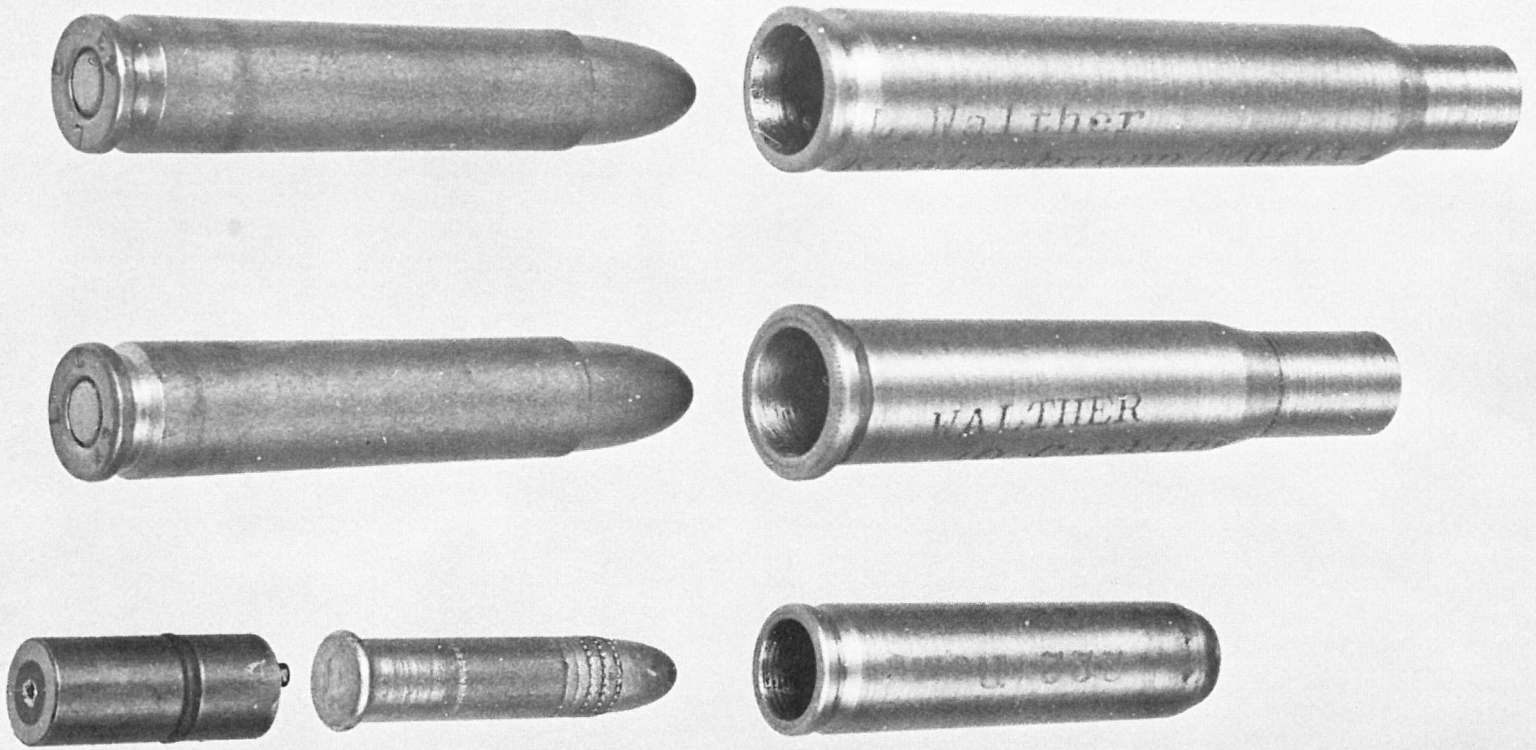

Figure 49. Lothar Walther Auxiliary Cartridges
49. *Lothar Walther Auxiliary Cartridges (figure 49)*